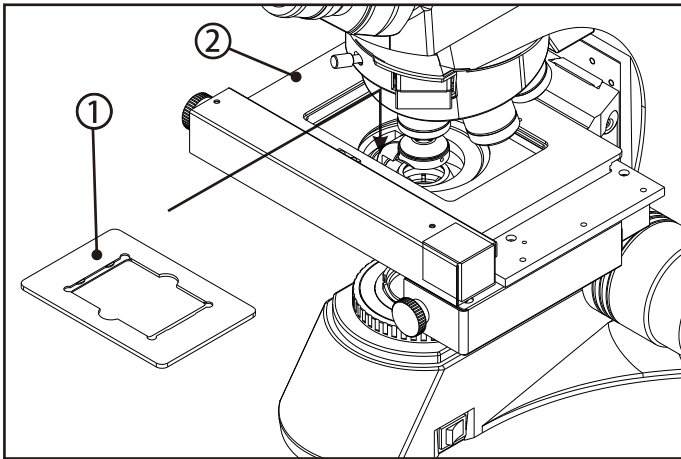

fig. 13
Place the specimen Bracket ① on the opening of the lead screw platform ② (Figure 13).